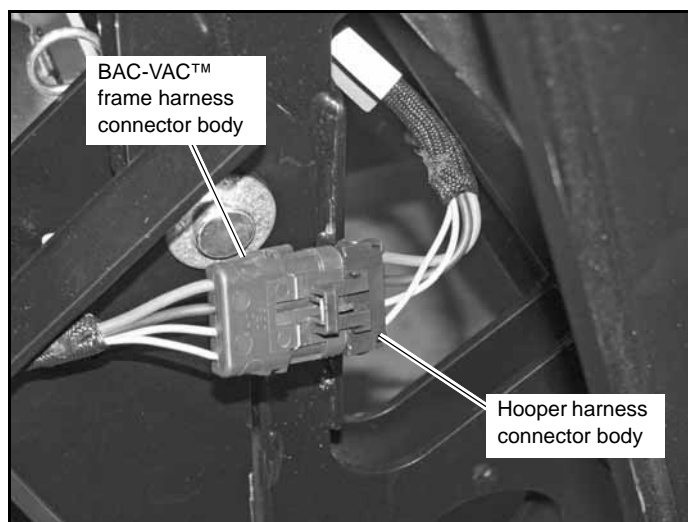

Figure 3-21
3. Connect the BAC-VAC™ frame harness connector body to the hopper's harness connector body. Figure 3-21